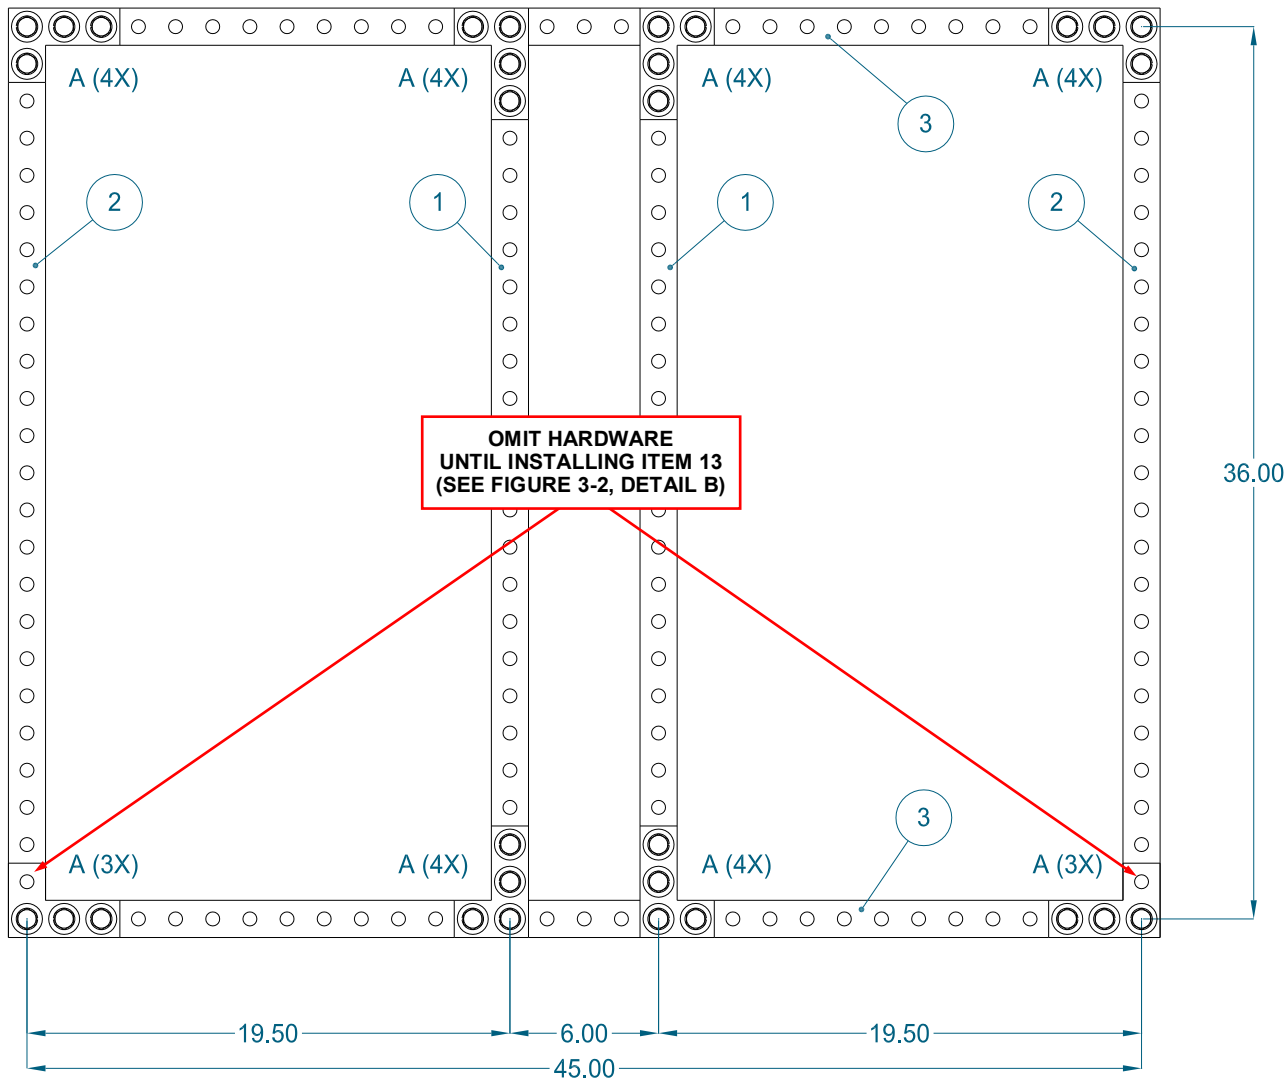
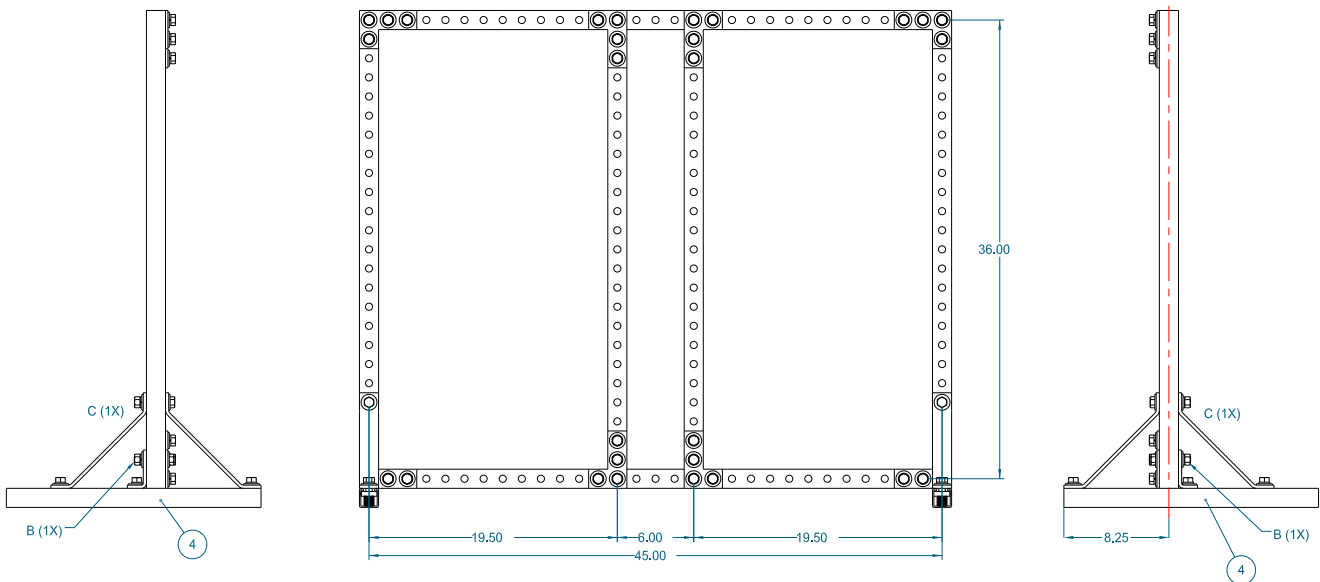

Figure 3-1: Uni-Strut Assembly
Figure 3-3: Uni-Strut Assembly, Base Strut
Reference the parts list in **Table 3-1** and **Figure 3-1**, **Figure 3-2**, and **Figure 3-3** throughout the assembly of the mounting frame.
1. Arrange the uni-strut sections (Items 1, 2 and 3) as shown in **Figure 3-1**. Secure the 4-hole L-brackets (Item 12) on the flat side of the uni-strut as shown in **Figure 3-1**, and refer to **Figure 3-2, Detail A** for hardware placement.
2. Arrange the 20" sections of uni-strut (Item 4) as shown in **Figure 3-3**,
3. Secure the 2-hole angle connectors (Item 13) to the uni-strut base and frame as shown in **Figure 3-3**, and refer to **Figure 3-2, Detail B** for hardware placement.
4. Attach the corner braces (Item 11) to the uni-strut base and frame as shown in **Figure 3-3**, and refer to **Figure 3-2, Detail C** for hardware placement.